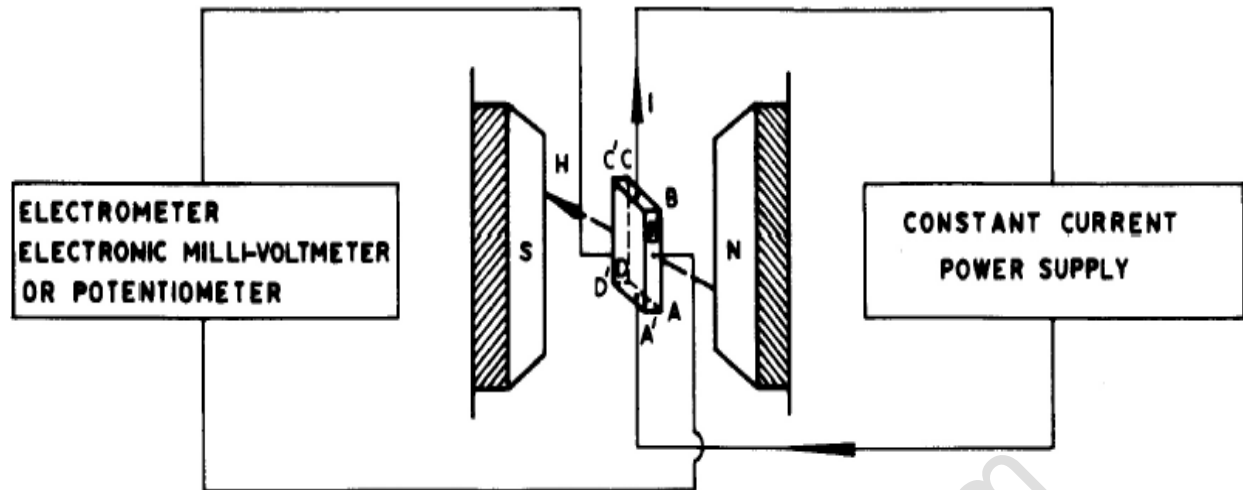

Fig.6.1.Hall apparatus set up
- Connect the widthwise contacts of the hall probe to the terminals marked as 'voltage' (i.e. potential difference should be measured along the width) and lengthwise contacts to the terminals marked (i.e. current should be measured along the length) as shown in fig.6.1